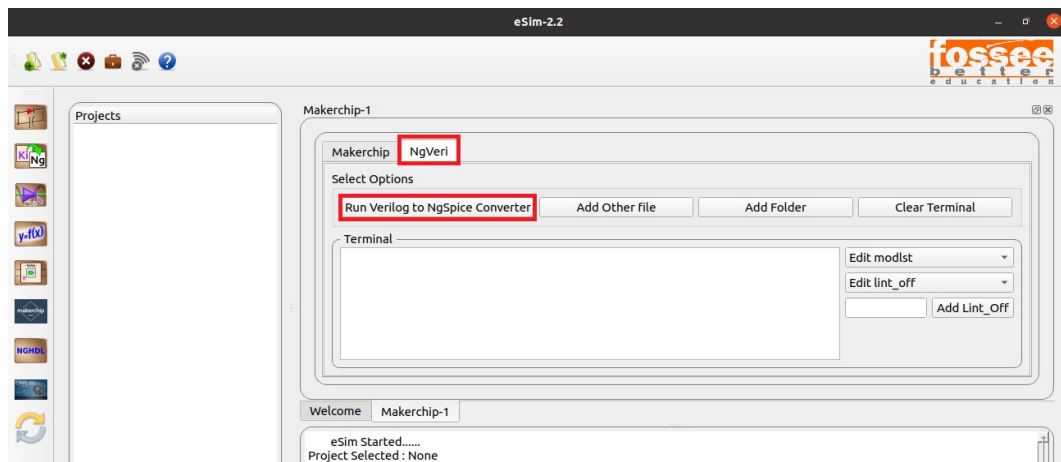

Figure 11.22: NgVeri interface buttons
2. Click on **NgVeri** button and then click on **Run Verilog to Ngspice converter** button as shown in Fig. 11.22. This step will convert 8 bit counter's verilog file to Ngspice model. The commands that run in the NgVeri terminal leads to creation of Ngspice(XSPICE) model of 8 bit counter are mentioned in following steps.